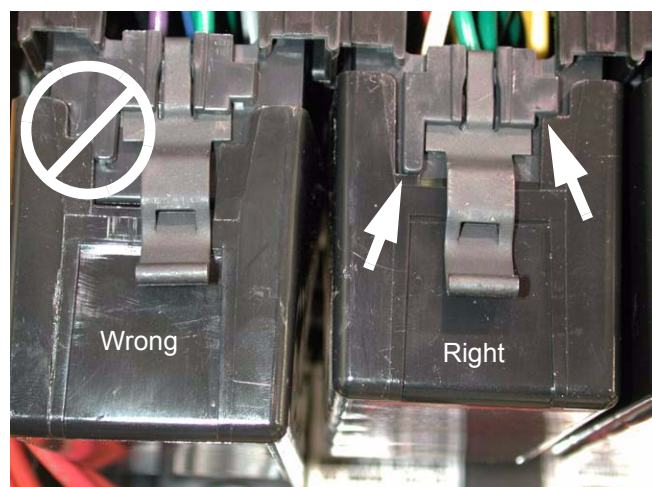

Figure 3.4
- 3.4. The relay covers go on in one direction only. There is a notch in each cover that matches a notch in the relay socket. See Figure 3.4.